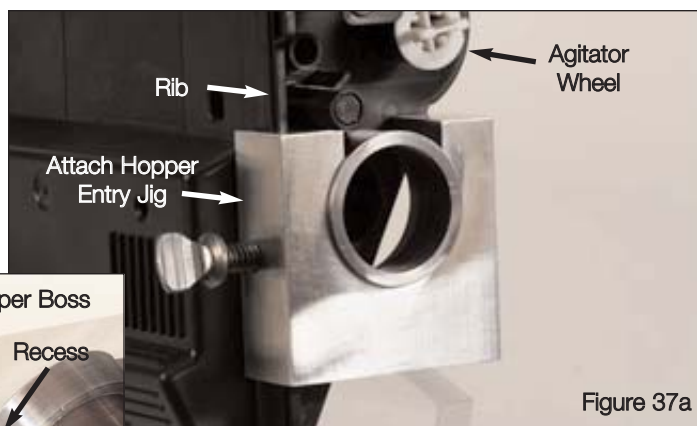
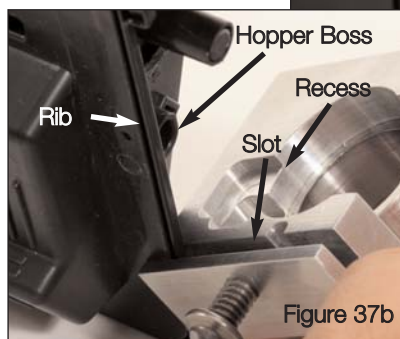

Figure 37a
Figure 37b
1. Place the slot of the hopper entry jig (Figure 37b) onto the rib of the hopper such that the hopper boss fits in jig recess and tighten the thumb screw as shown in Figure 37a.